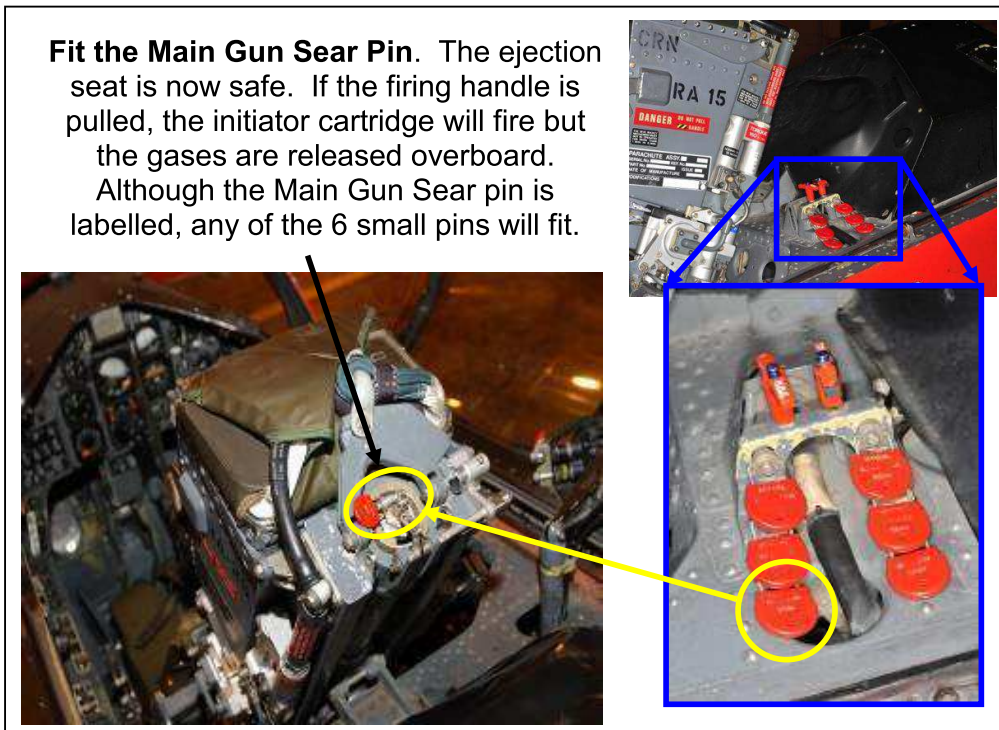
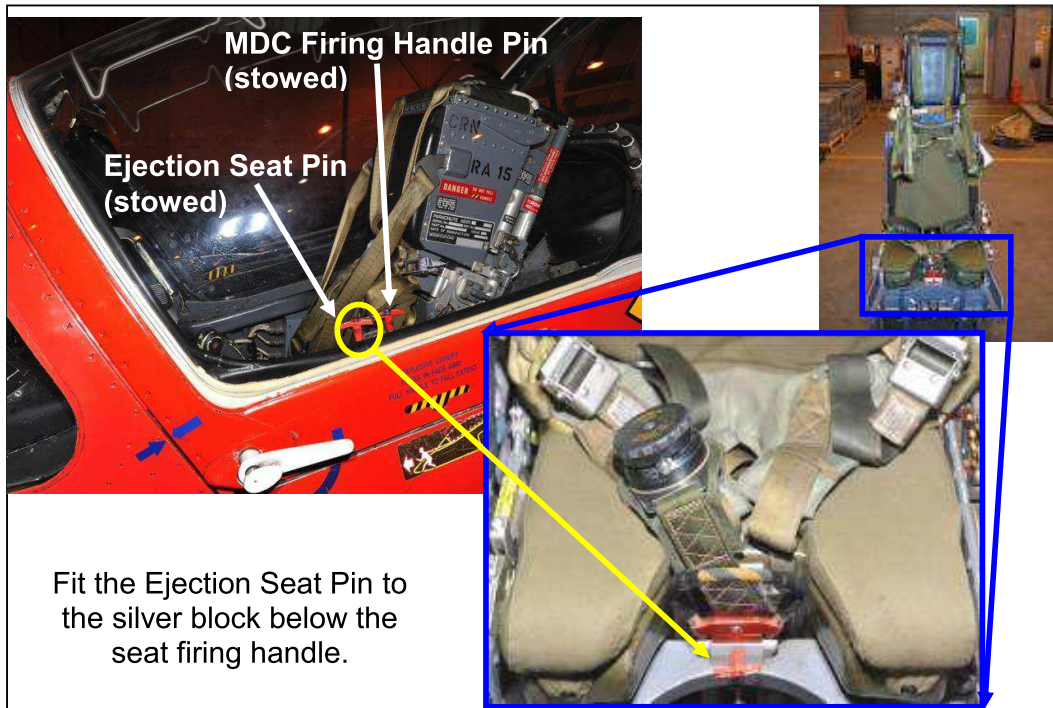
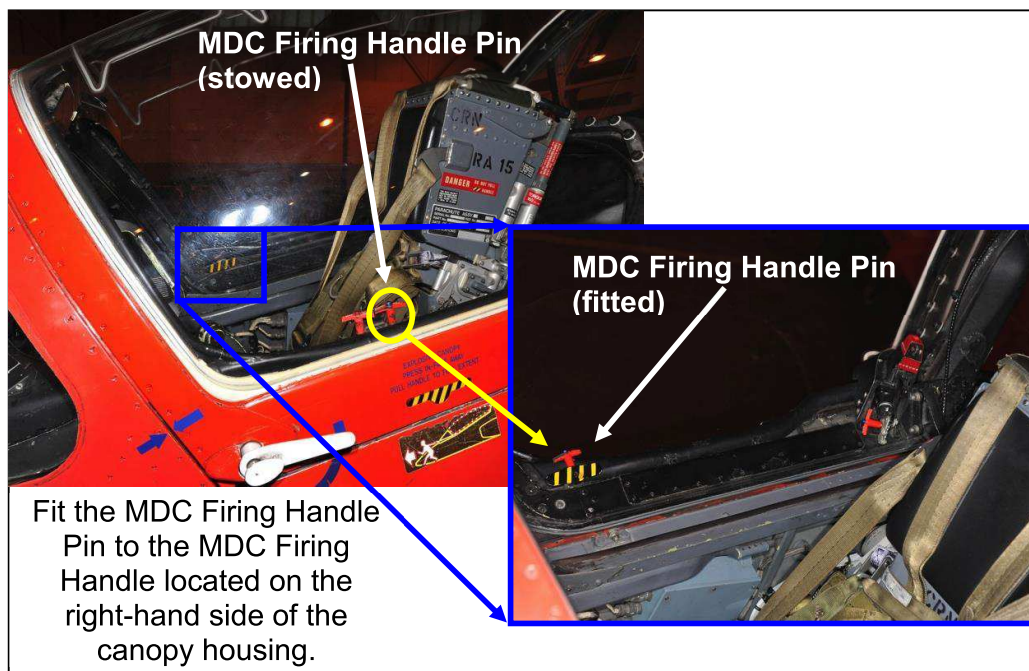

Figure 8 - Fitting the Main Gun Sear Pin (sear at top and rear of seat)
Figure 10 – Fitting the Ejection Seat Pin
Figure 11 – Fitting the MDC Firing Handle Pin
2. Fitting Safety Pins. For each occupied cockpit, a minimum of 2 safety pins must be fitted to render the ejection seat and canopy explosive systems safe enough to extract the occupant. Figure 8 and Figure 11 below show fitting of the Main Gun Sear and MDC Firing Unit pins respectively, which should be carried out as a minimum before attempting aircrew extraction. The Main Gun Sear prevents the ejection seat from firing even if the seat firing handle is pulled, and the MDC Firing Unit Pin prevents the canopy explosive chord from firing even if its firing handle is operated.
3. **Additional Pins.** After the pins have been fitted as per paragraph 2 above, for additional safety and if time permits, the Ejection Seat and MDC Firing Handle Pins can be fitted as shown in Figure 10 and Figure 11 below.